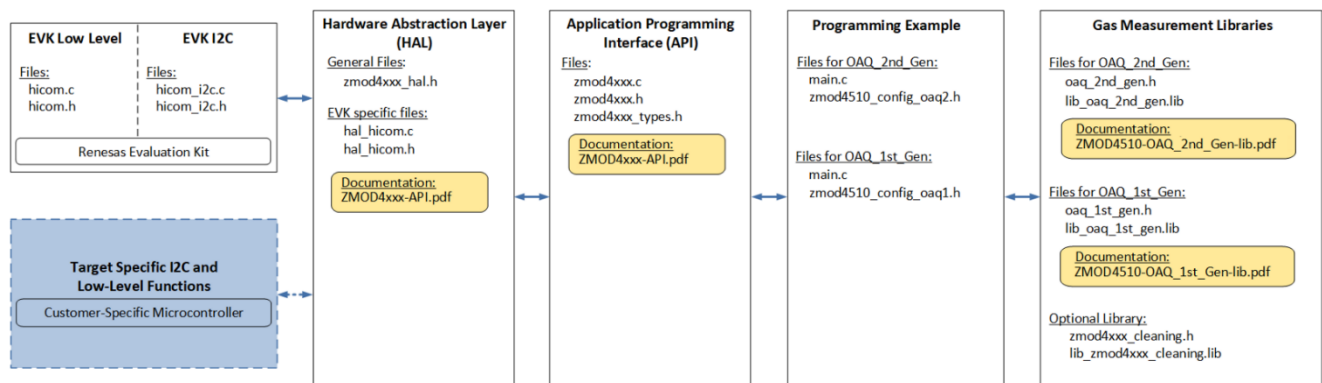

Figure 1. File Overview for ZMOD4510 Firmware
To operate the ZMOD4510 and use its full functionality, five code blocks are required as illustrated in Figure 1:
- The “Target Specific I2C and Low-Level Functions” block is the hardware-specific implementation of the I2C interface. This block contains read and write functions to communicate with the ZMOD4510 and a delay function. If the Renesas EVK is used, files for the EVK HiCom Communication Board are provided with the ZMOD4510 firmware packages. Using the user’s own target hardware requires implementing the user’s target-specific I2C and low-level functions (highlighted in light blue in Figure 1).
To set up a firmware for an Arduino target, Renesas provides the above-mentioned EVK examples also as Arduino examples. These examples have a similar structure as shown in Figure 1 but with a HAL dedicated for Arduino, an Arduino-compatible structure, and Arduino-specific files. One example supports SAMD 32-bit ARM Cortex-M0+ based Arduino-Hardware included in the SAMD Boards library. For example:
The low-level I2C functions are implemented in the file *hicom\_i2c.c* and are allocated in the *hal\_hicom.c* (see Figure 1) for the EVK hardware running on a Windows-based computer and the HiCom Communication Board. To incorporate this programming example into a different hardware platform, the following steps are recommended:
2. Adjust the HAL files and hardware-specific *init\_hardware* and *deinit\_hardware* functions to the user’s target hardware (compare with *hal\_hicom.c* file). Set the device’s struct pointers *read*, *write*, and *delay\_ms* in the hardware initialization by using wrapper functions. The type definitions of the function pointers can be found in *zmod4xxx\_types.h* (see Figure 1) and an implementation example for the EVK in the *hicom\_i2c.c*. The functions *read* and *write* should point to the I2C implementation of the hardware used. Test the *delay\_ms* function with a scope plot.